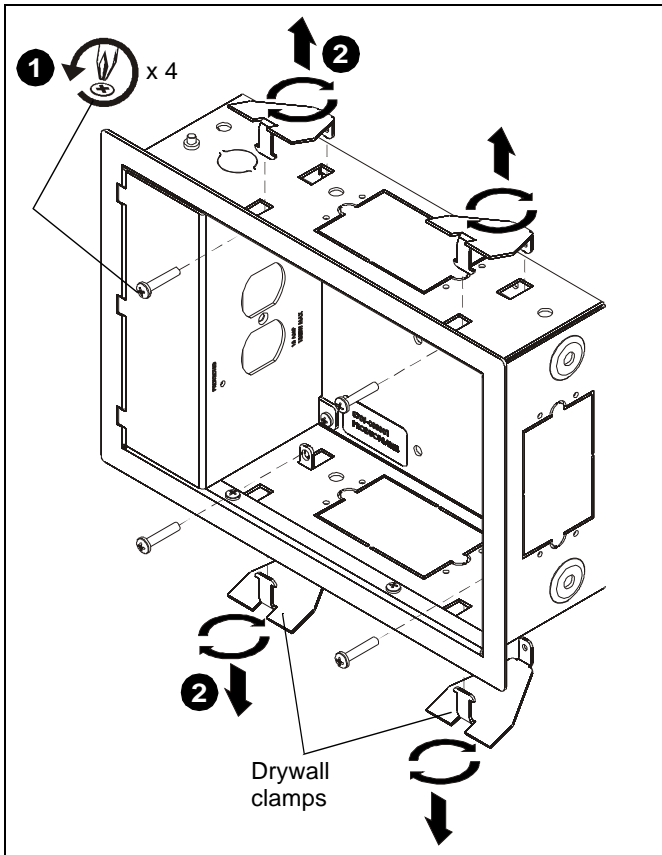

Figure 3
1. Remove and save four Phillips head screws holding four drywall clamps in place. (See Figure 3)
2. Turn drywall clamps 90° and slide out of PAC521N. (See Figure 3)